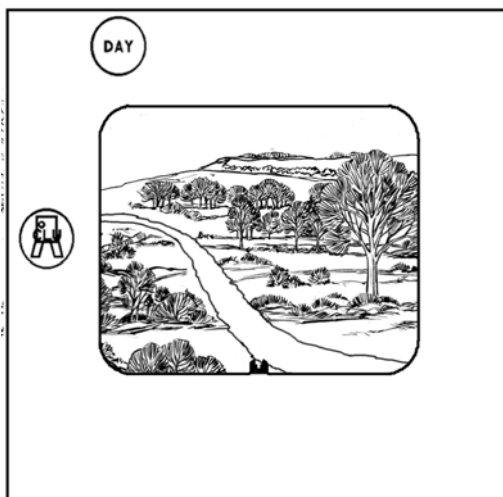

Figure D-7. CLU BIT failure.
- (1) CLU fails continuous BIT.
- (2) CLU does not initiate software download to the missile.
- (3) CLU battery is spent and CLU reverts to day FOV (Figure D-7).